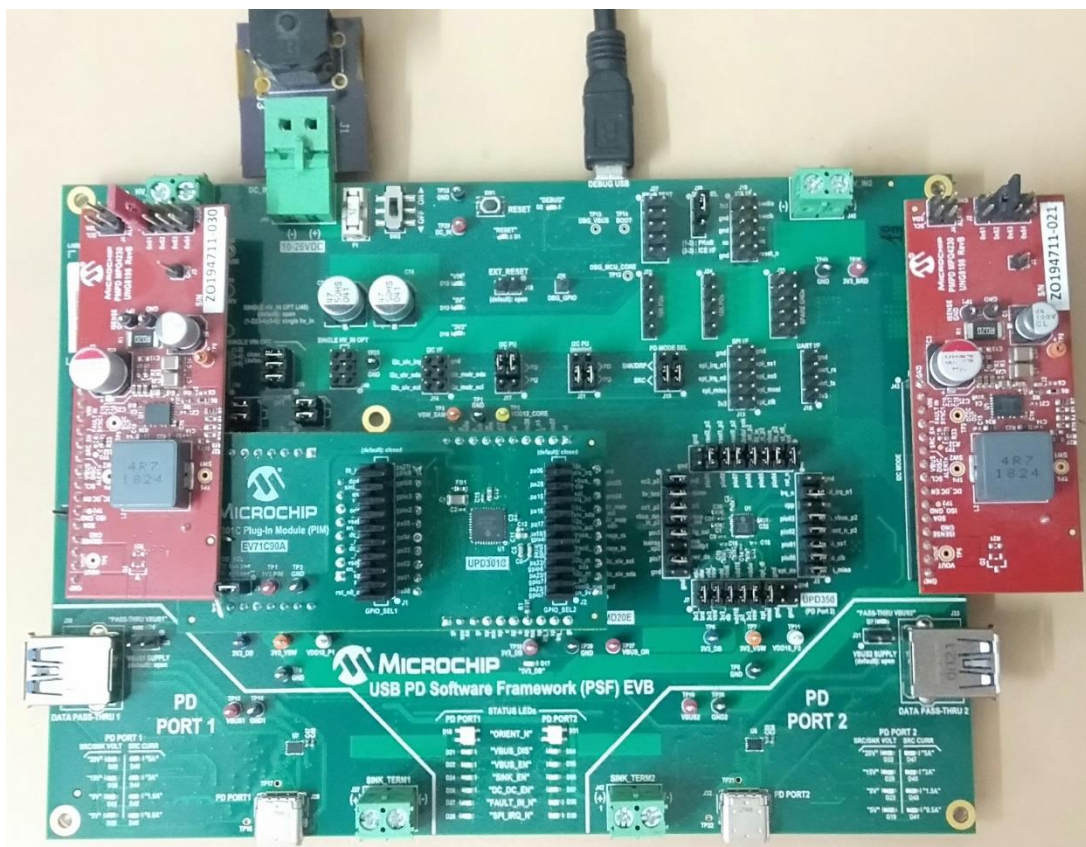

Figure 5.2 PM-PD Installation
2. Connect PM-PD Modules to J34 and J43 of the EVB-PSF in correct orientation as shown in Figure 5.2